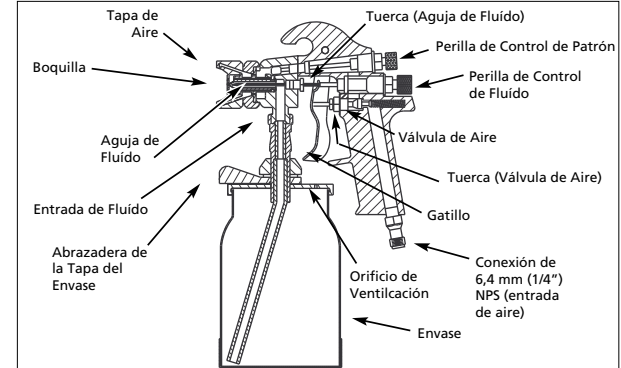

Figure 15 - Pistola Pulverizadora de Sifón
5. Unscrew packing nuts and replace the packing **ONLY** if a leak will not stop when the nut is tightened (See Figure 15). Do not over-tighten a packing nut because this will restrict movement of the needle.